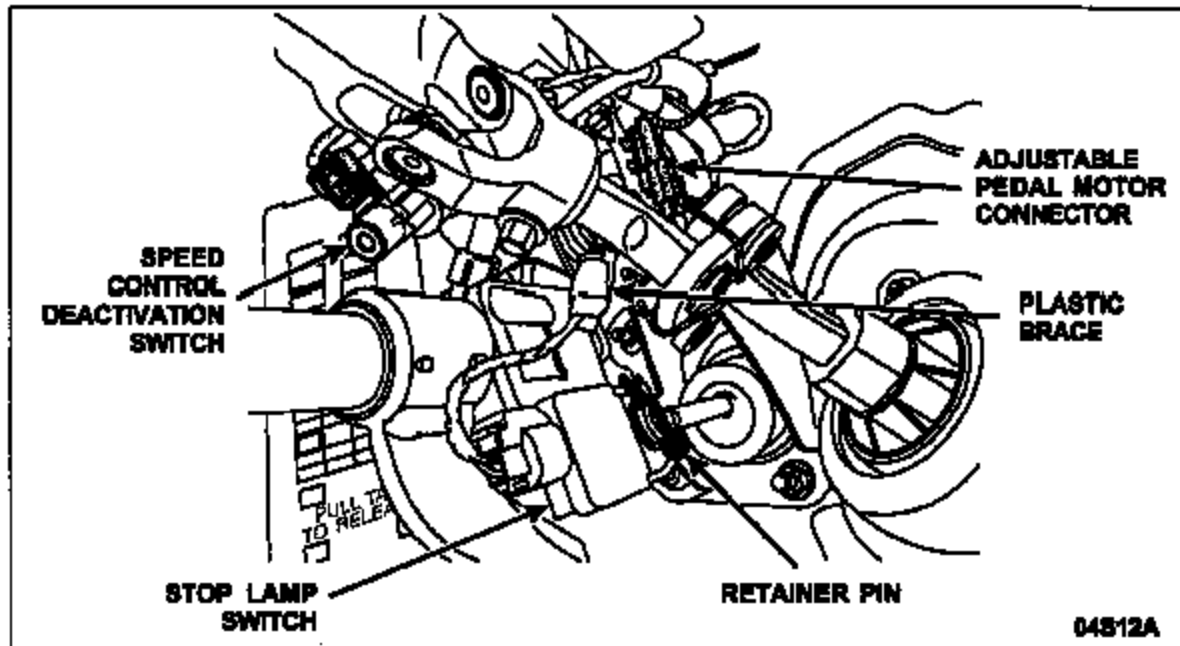

FIGURE 1
2. Position the stop lamp switch wire harness assembly down the left side of the steering column for easier access to the repair area as follows: See Figure 1.